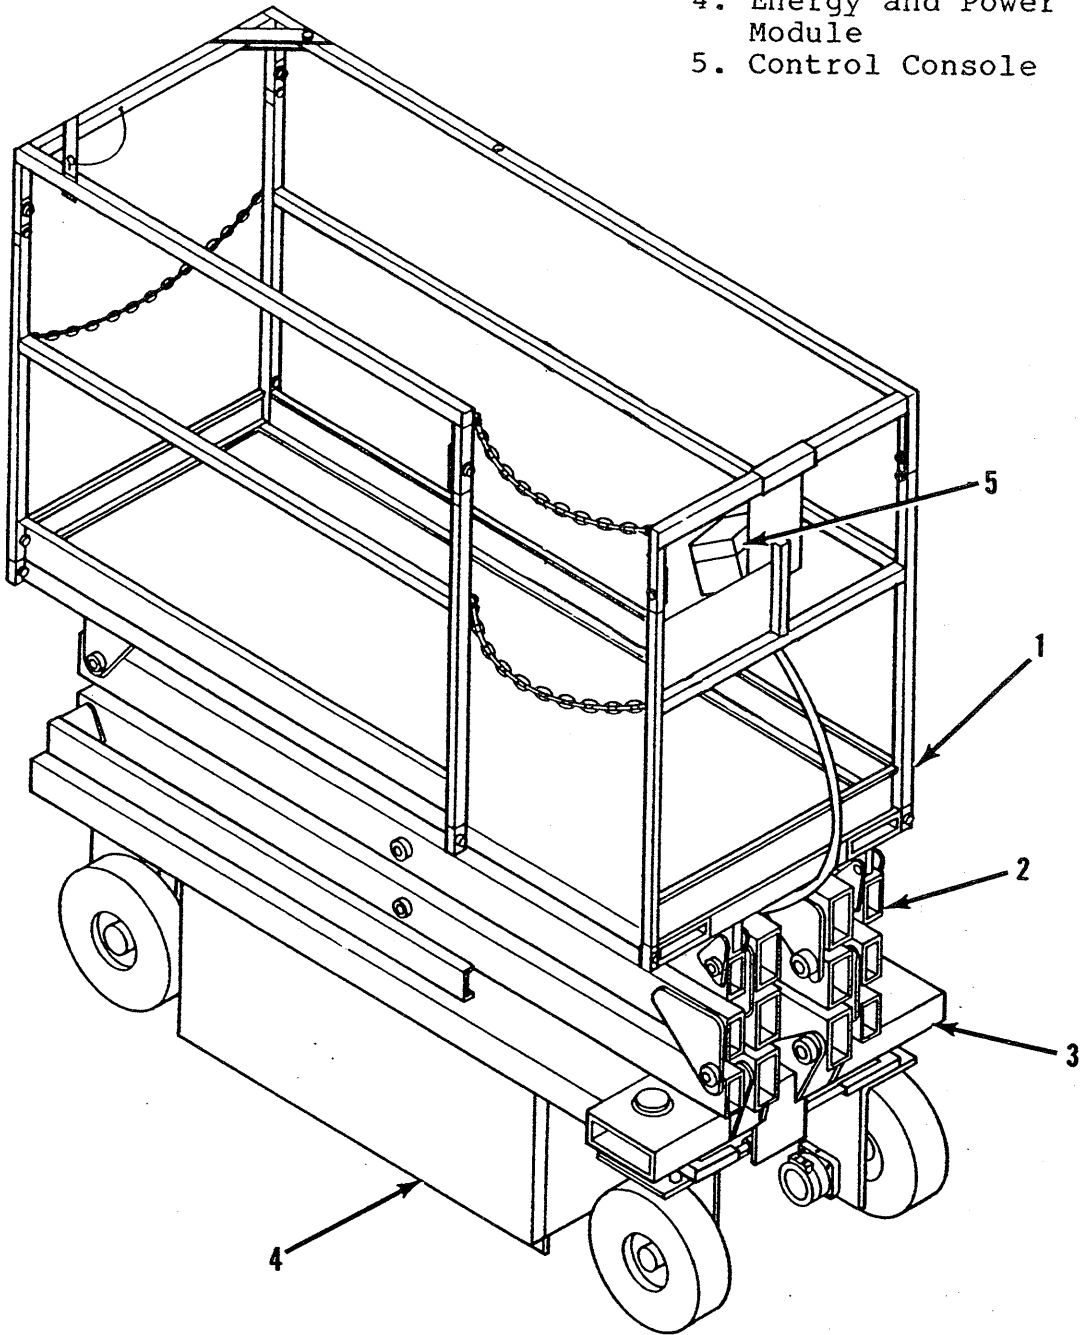

Figure 1-1. XL-C Work Platform
**1-2. PURPOSE.** This manual provides illustrations and instructions for the operation and maintenance of an UP-RIGHT XL-C SERIES Work Platform manufactured by Up-Right, Inc. Selma Operations, of Selma, California. (See Figure 1-1).